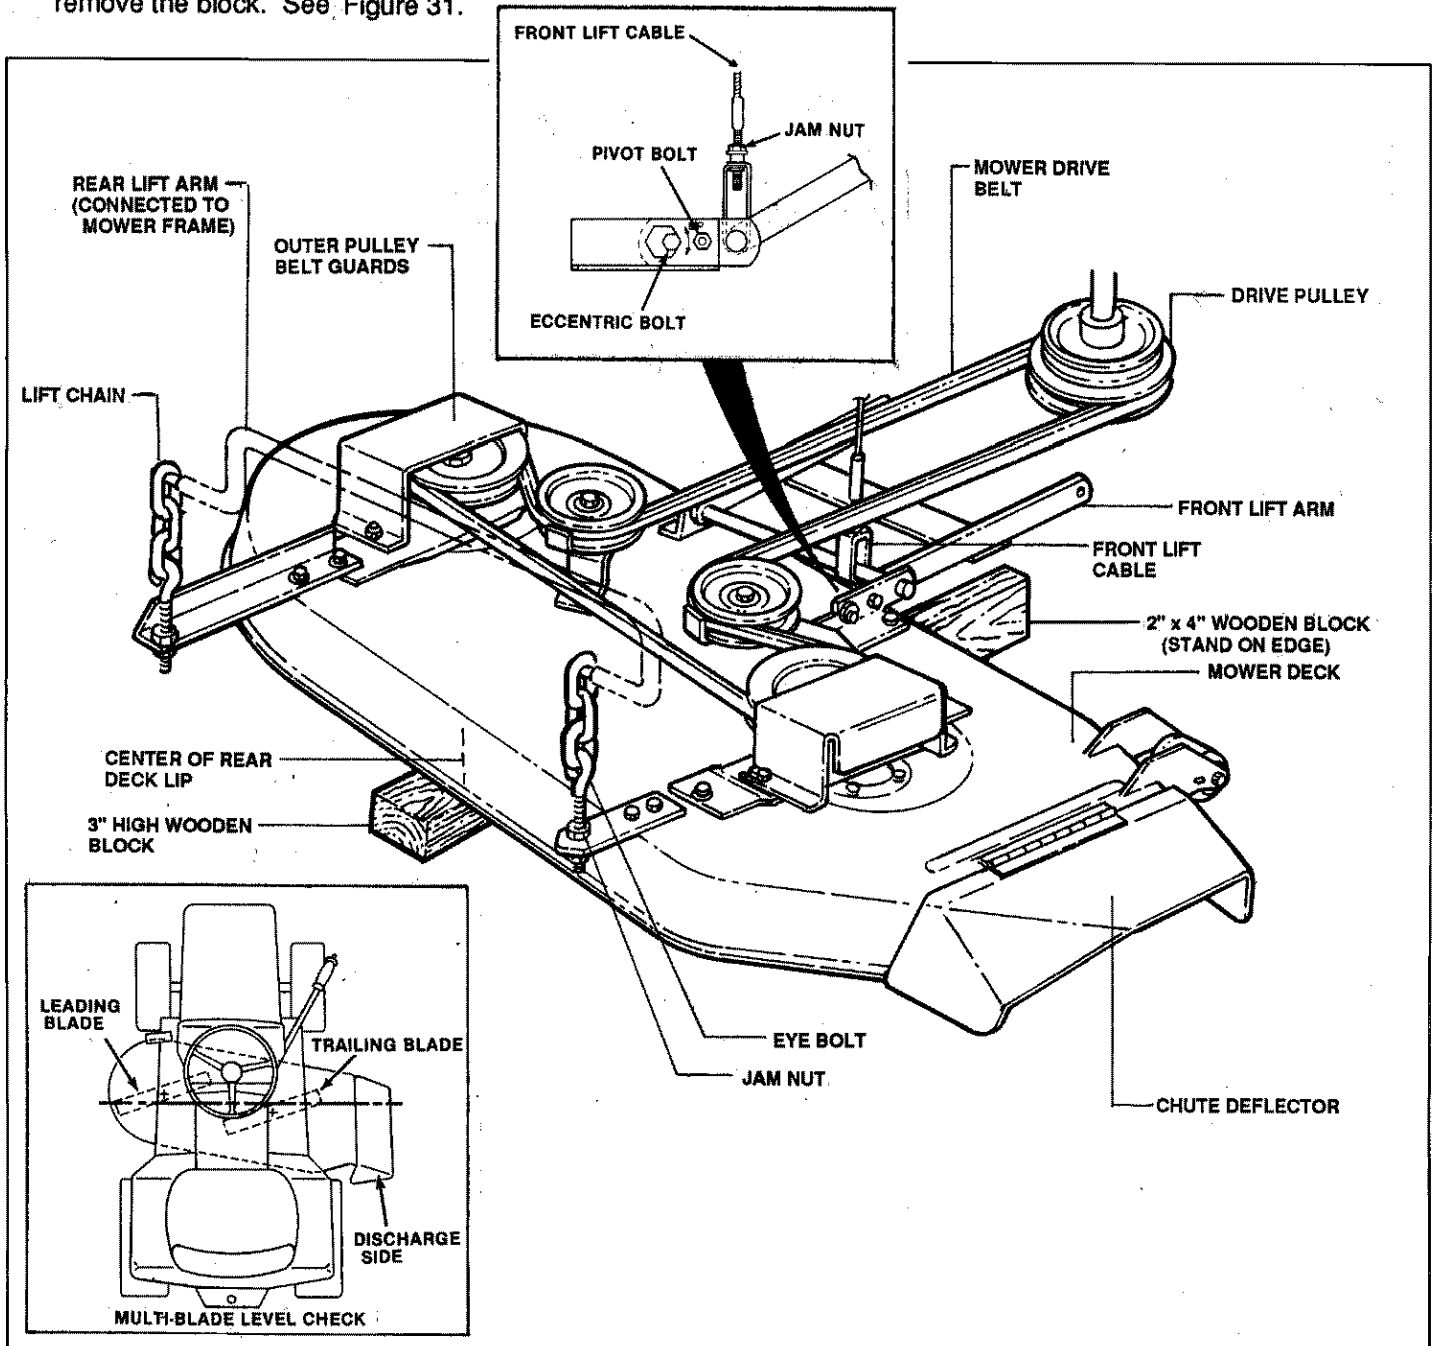

FIGURE 31
5. Loosen the jam nut on the front lift cable and adjust until the front lip of the deck rests on the 2 x 4 block and the cable is tight. Tighten the cable jam nut and remove the block. See Figure 31.